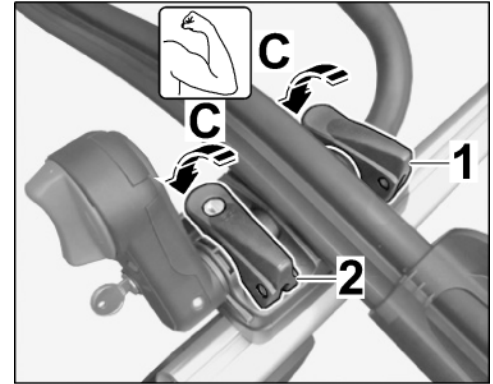

Figure 11
- 4.7.2 Adjust the tensioning lever towards the retainer plate using the required amount of force (⇒ *Figure 11 -C-*).
Adjust the tensioning lever towards the retainer plate using the required amount of force (⇒ *Figure 11 -C-*).